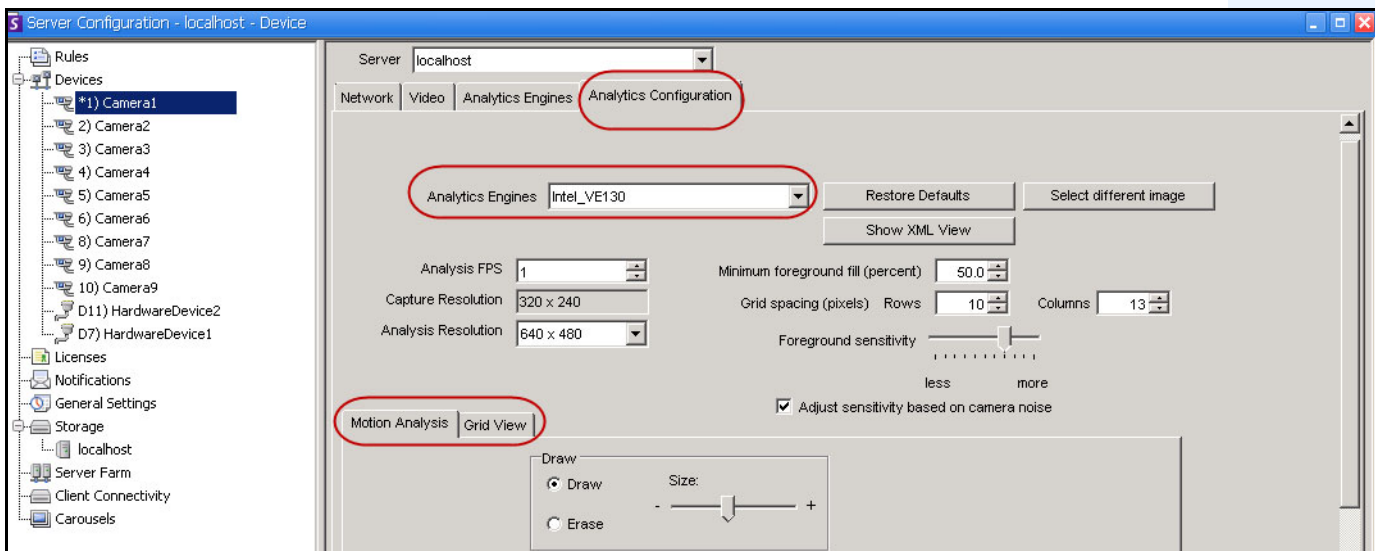

Figure 5. VE130 - Analytics Configuration tab (Grid View subtab)
5. Click the **Analytics Configuration** tab (Figure 5).